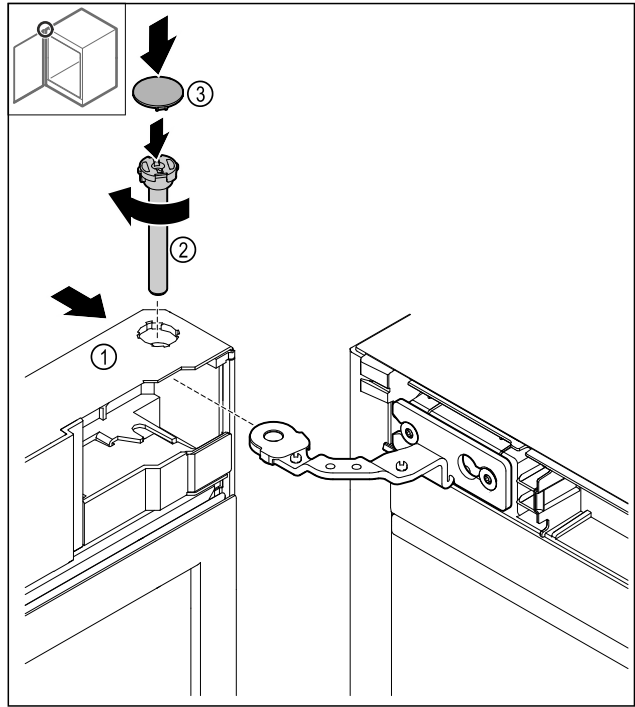

Fig. 44
- Slide the door Fig. 44 (1) onto the top hinge.
- Insert the bolt Fig. 44 (2) and turn it clockwise to tighten.
- Put on the cover Fig. 44 (4).